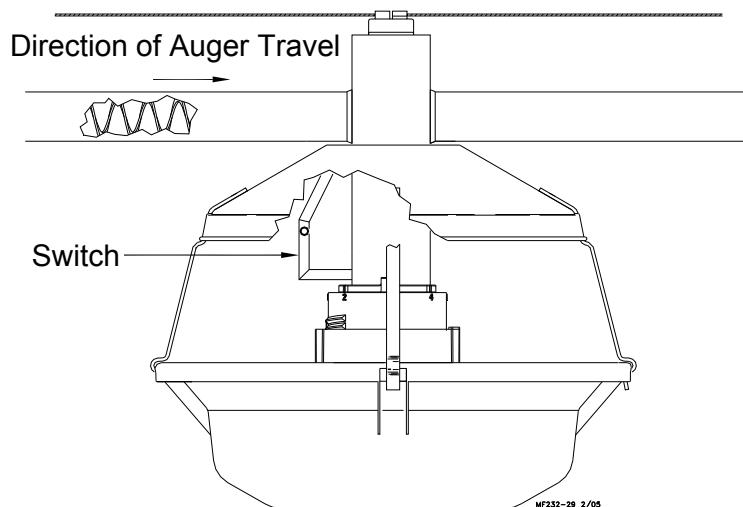

Figure 40. Orientation of Mid-Line Control Switch
1. Determine which feeder tube and outlet hole will be used for the mid-line control. Slide a mid-line control into place on the tube. Make sure the mid-line control is installed so the switch is directly under the incoming supply of feed, see figure 40.